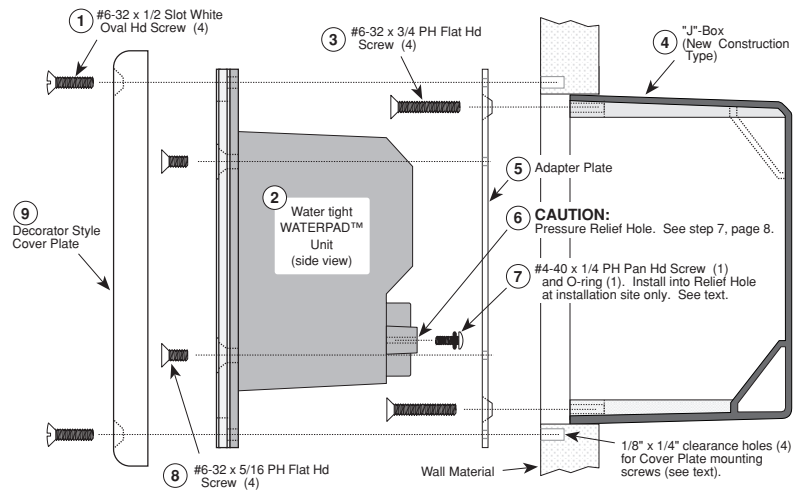

Fig. 8 Mounting the Waterpad into a New Construction type J-box.
- You would then make connections to the 8-terminal block and the 4-conductor inter-room cable and carry out all the remaining steps as described for retrofit J-box mounting. Refer to steps 1 through 9 previous and **Fig. 8**.